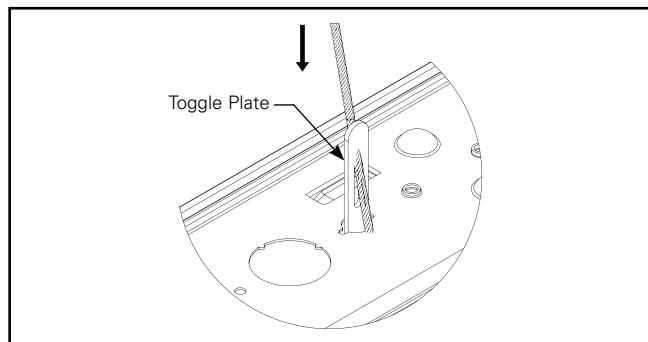

Figure 4.2.
- B. Keep toggle plate length side perpendicular to channel top surface and insert into hole (Figure 4.2).